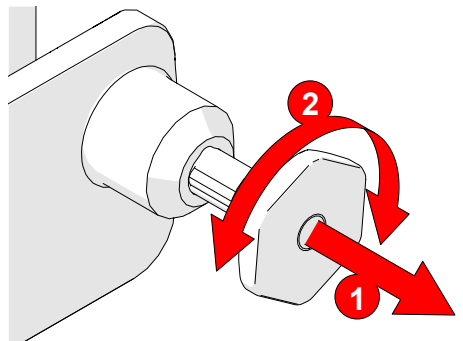

Fig. 58 - Pull latch pin and rotate
5. Pull the latch pin and slightly rotate the latch pin left or right (Fig. 58).